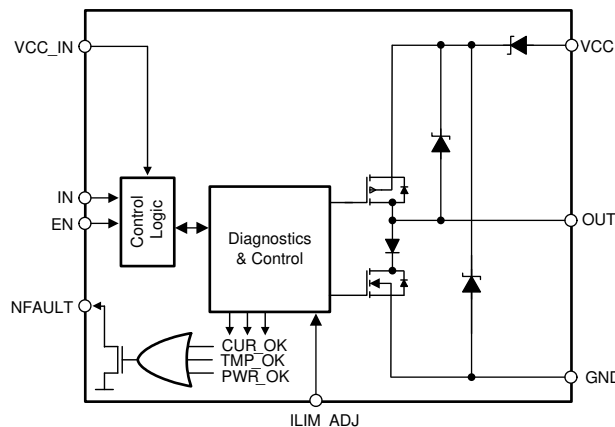

Figure 8-1. Block Diagram, TIOS101
Figure 8-1 shows that the device driver output (OUT) can be used in a push-pull, high-side, or low-side configuration using the enable (EN) and transmit data (IN) input pins. OUT can drive resistive, large capacitive or large inductive loads.